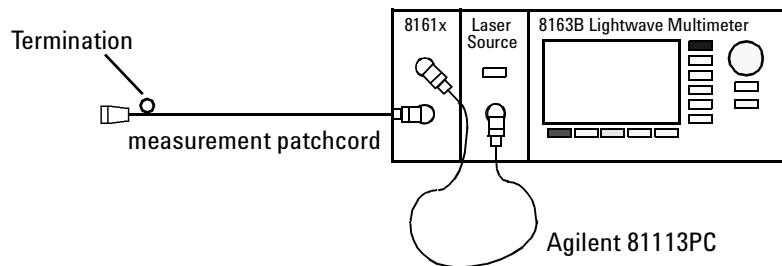

Figure 104 Measuring the Termination Parameter - External Source
- 1** Making sure all the connectors are clean, set up the instrument as shown in Figure 104 if you are using an External Source,